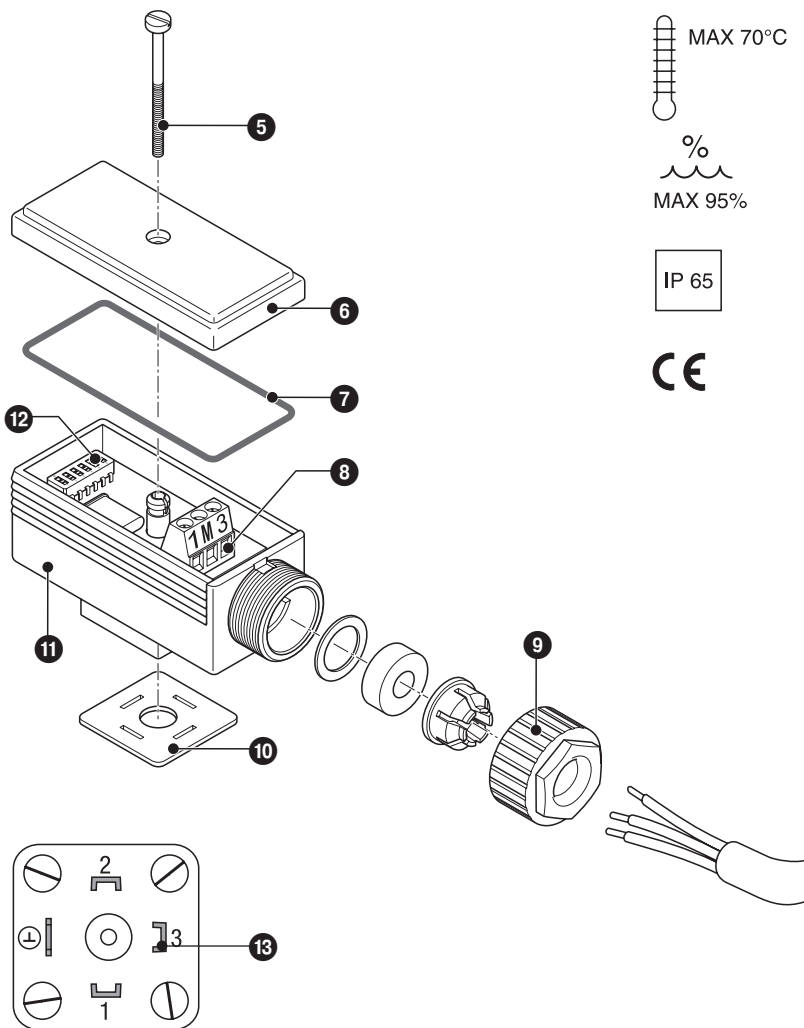

Fig. 9
1. Undo screw ⑤. Fig. 9
2. Take terminal box off the electrode but leave insulating plate ⑩ on contact plate ⑬.
3. Remove cover ⑥ and seal ⑦.
4. Detach cable gland ⑨ from terminal box ⑪.
5. Run cable through cable gland ⑨ of terminal box ⑪ and wire terminal strip ⑧ according to the wiring diagram.
6. Re-attach cover ⑥ and insert screw ⑤.
7. Put terminal box onto the level electrode and fix it with screw ⑤.